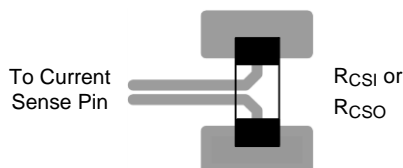

Figure 5. Kelvin connections for R_{CSI} or R_{CSO}
- ▶ Connect the capacitor close to CSIP/CSIN and CSOP/CON pins. The paths of current sense pin (CSIN/PCIP, PCIN, CSIP, CSON/PCOP, PCON, CSOP) must be directly connected to the terminals of current sense resistors (R_{CSI}/R_{CSO}) using Kelvin connections as shown in the layout in Figure 5.